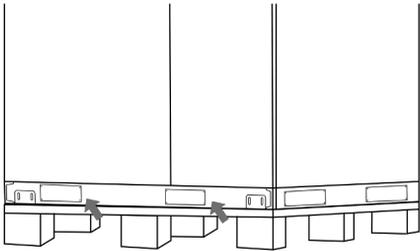

Figure.4
3. Unscrew two protection plates at the bottom of the cabinet. See the Figure.4